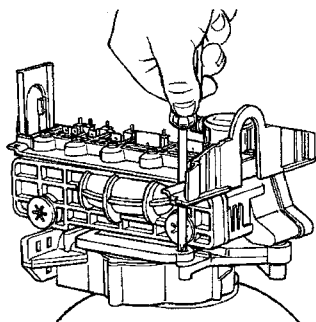

Figure 15
8. To remove the valve, remove the screw in the locking bar, Figure 15.